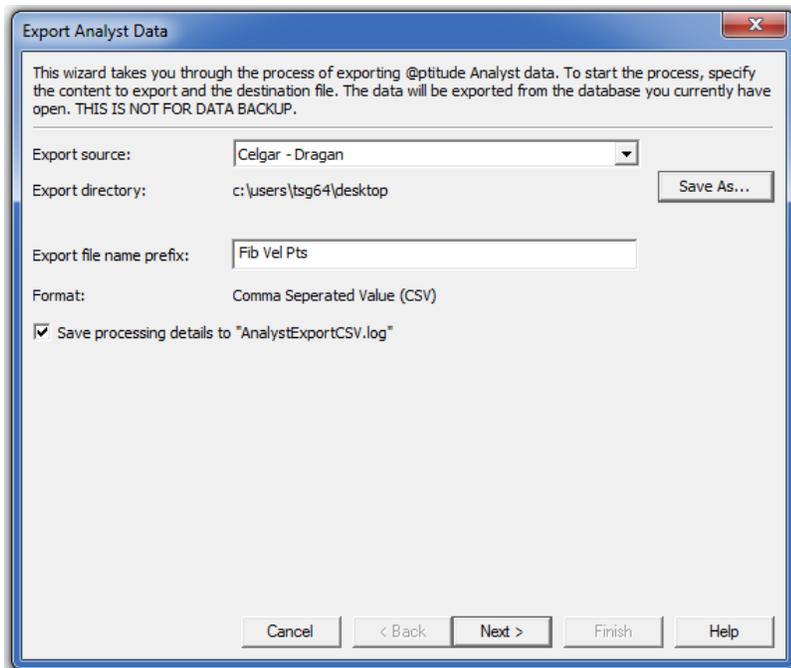

Figure 6. Export Analyst Data window
- Fill out the Export Analyst Data window. [Figure 6] Confirm the **Export source** is correct, and note the **Export directory**. Enter a name for the CSV file that resembles the exported information. Click **Next >** to continue.